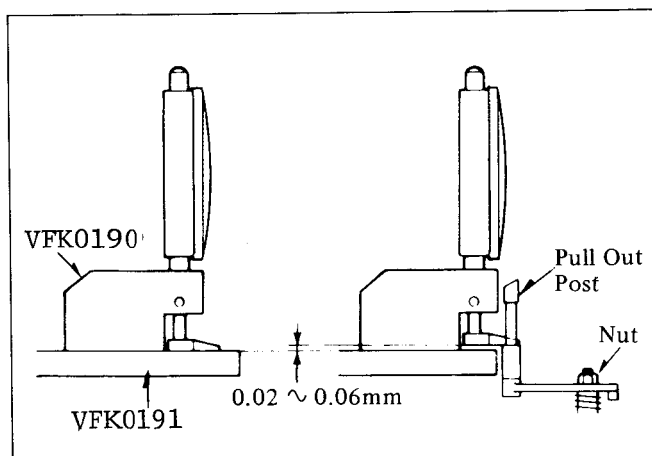
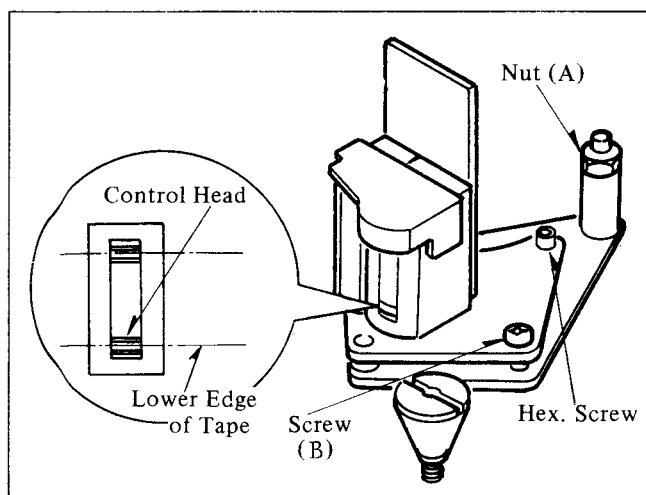

Fig. M25. Height Adjustment of Pull Out Post
Fig. M27. Confirmation of A/C Head Height
4. Slightly lower the post by turning the nut clockwise. Fit the foot to the post so that the condition becomes as shown in Fig. M25.
Unless P4 is adjusted, (See Fig. M25) this procedure should not be performed. Playback the tape and confirm that the tape runs between lower and top limiters of the post. If the lower edge or top edge of the tape turns with waving or frilling, then correct the tilt of the A/C Head by turning hex. screw. (A hex. screw is shown in Fig. M27.)